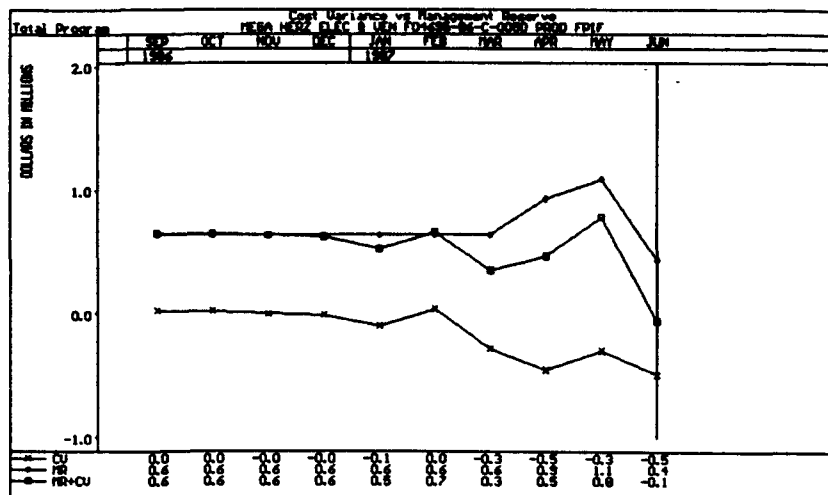

Figure 7-17
The **Management Reserve** graph displays the cumulative cost variance, Management Reserve (MR), and the summation of the cumulative cost variance and MR at the total program level. (Figure 7-17) It will initially display the most recent 12 months of data. You may toggle back in 12-month increments by pressing the **Space Bar**.